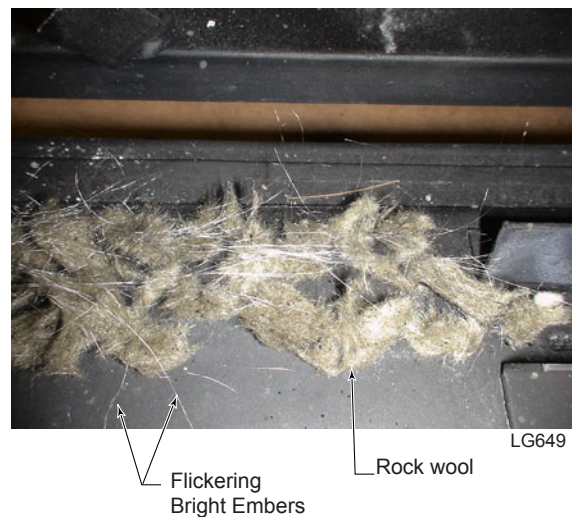

Figure 18 - Place Flickering Bright Embers
2. Place flickering bright embers (FBE-.1G) before placing logs on burner. Pull embers apart into small strands and place on top of existing rock wool on both sides of burner from the air deflectors to the end of each burner where they can be seen. Try to avoid stacking these embers on top of each other. Use smaller strands for maximum effect. Use as much as needed to achieve desired effect. *Figure 18*